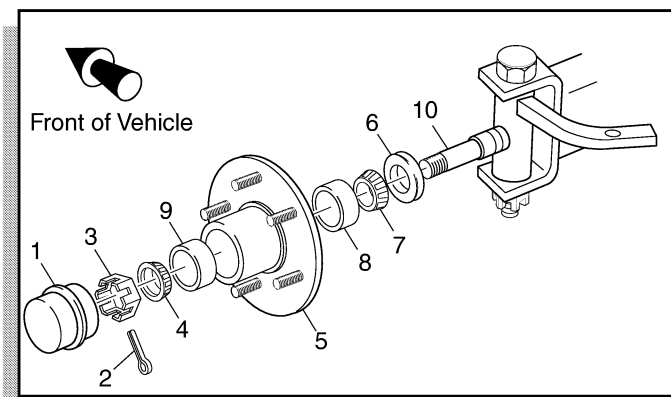

Fig. 13 Front Spindle and Bearing
Remove the dust cap (1), cotter pin (2), castellated nut (3), outer roller bearing (4) and the hub assembly (5) (Ref Fig. 13 on page E-9).
Rotate the wheel 2 - 3 more turns to displace excess grease. If required, tighten castellated nut again until slight resistance is felt. If the cotter pin hole in the spindle (10) aligns with a slot in the castellated nut, insert a new cotter pin (Ref Fig. 13 on page E-9). If the hole does not align, the castellated nut must be **loosened** to align with the **closest available** slot in the nut.